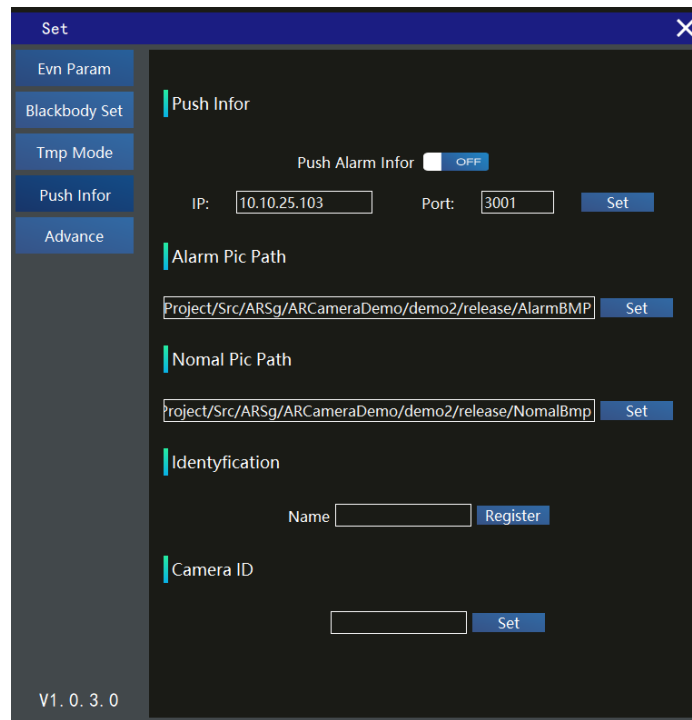

Figure 11
3.Information push mode, as shown in figure 11: